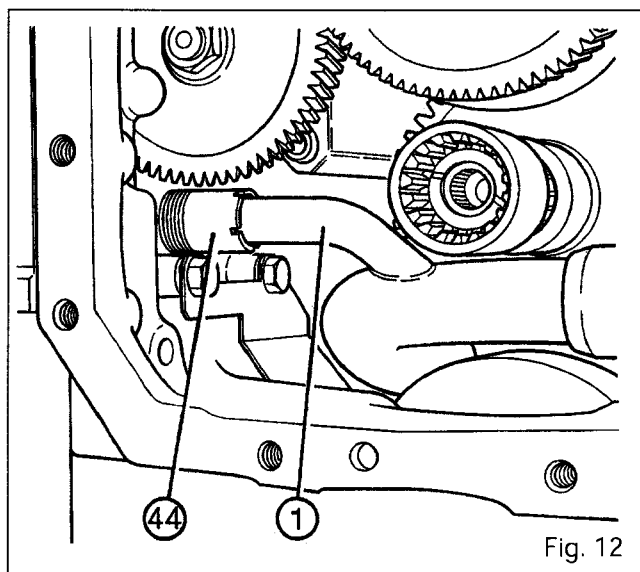
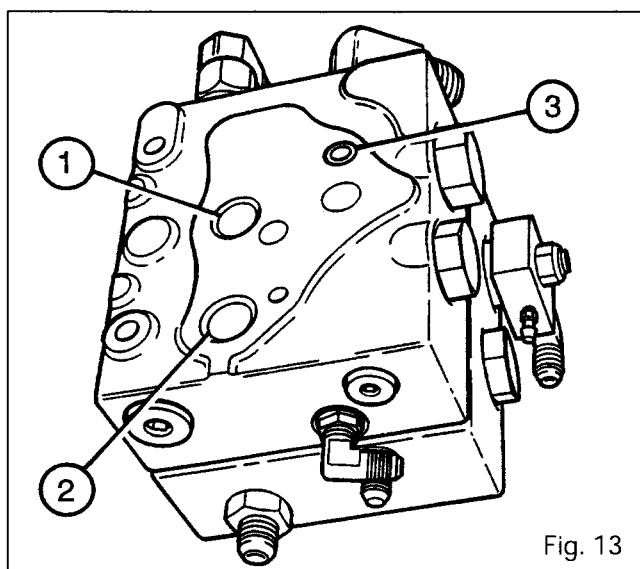

Fig. 12
Fig. 13
14. Slide the cover onto the studs and apply it onto the centre housing, checking that the suction pipe (1) is correctly positioned on the 5-bar valve (48) between the mating faces between the cover and the housing (Fig. 12).
15. Tighten the bolts (1) to a torque of between 120 and 160 Nm and the nuts to between 90 and 120 Nm.
16. Replace the O-rings (1) to (3) (Fig. 13) and reinstall the override unit or the trailer brake unit (if fitted). Smear the bolts (4) with Loctite 542 and tighten them to a torque of between 25 and 35 Nm (Fig. 8).
20. Check the operation of the electric circuits, the LP switch (14), the booster switch (lubrication) (42), the clogging switch (34), the heat-sensitive switch (46) and the solenoid valves.